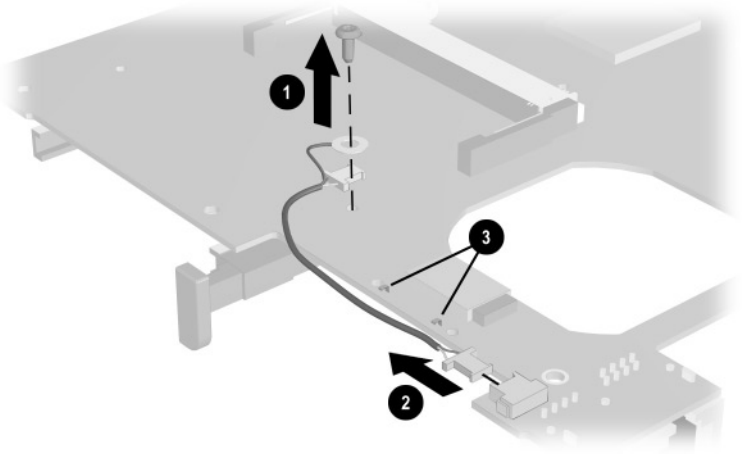

Figure 5-46. Removing the Modem Cable
3. Remove the PM2.0 × 4.5 screw ❶ that secures the modem ground cable to the system board (Figure 5-46).
4. Disconnect the modem cable ❷ from the system board.
5. Remove the cable from the clips ❸ on the system board.